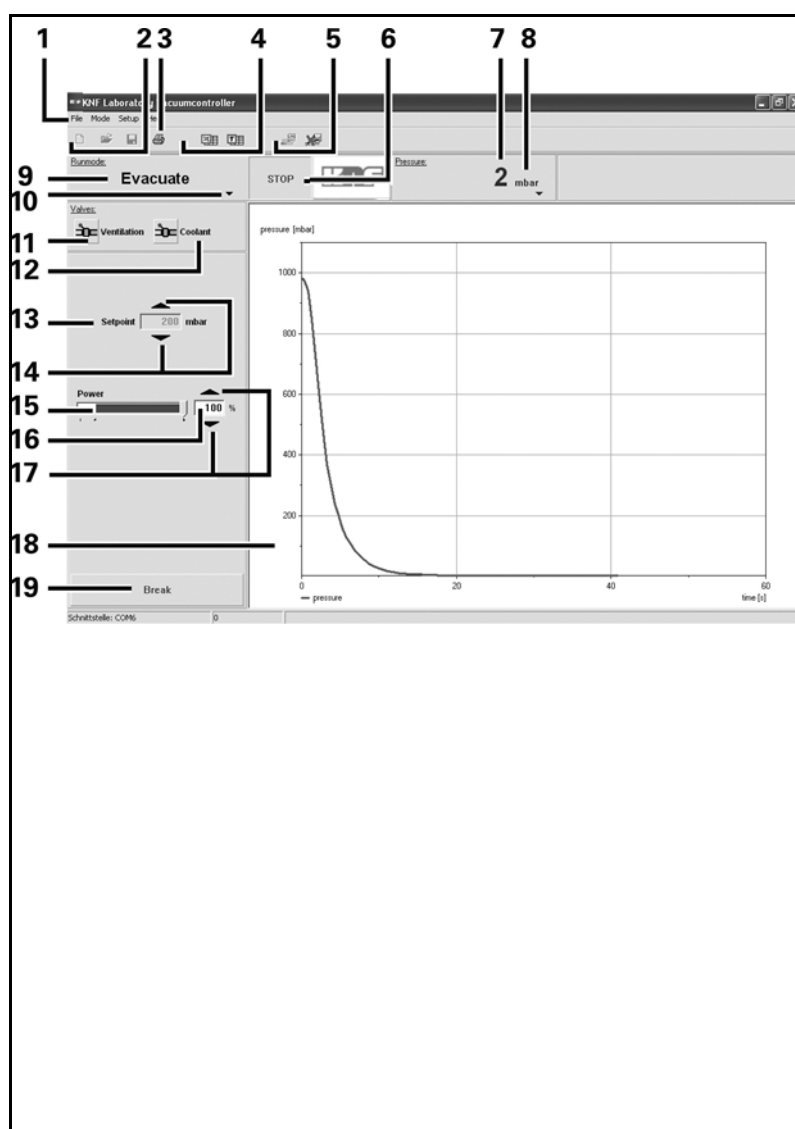

Fig. 1 : Example of software interface showing Evacuate operating mode
Fig. 1 shows an example of the software interface.
Pressure unit menu (Fig. 1/8, page 1)
- Chart: Operating mode menu (Fig. 1/10, page 1)
→ Press *START/STOP* button (Fig. 1/6, page 1)
➔ Press *ventilation valve* button (Fig. 1/11, page 1).
➔ Press *coolant valve* button (Fig. 1/12, page 1)
➔ Adjust the pump capacity with the slider (Fig. 1/15, page 1), button (17) or by keyboard entry in the display field (16).
➔ Adjust setpoint pressure with the *Increase/reduce setpoint pressure* button (Fig. 1/14, page 1) or by keyboard entry in the display field (13).